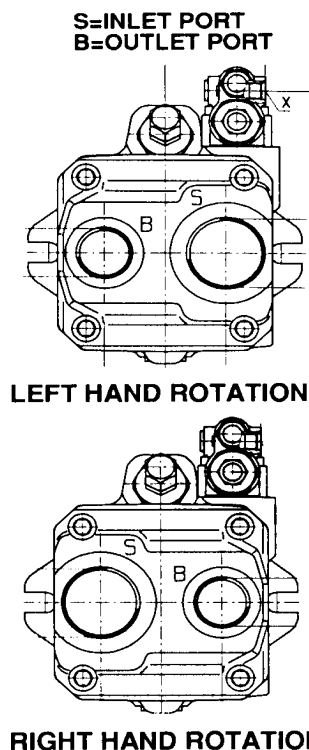

FIGURE 1. PUMP ROTATION
A. Check direction of rotation of pump to insure that it is correct for the application. Refer to Figure 1.